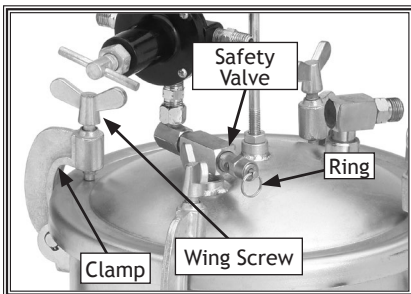

Figure 4. Safety valve ring.
2. Bleed out all tank pressure by pulling the ring on the safety valve (Figure 4) until air stops hissing out
4. Loosen the wing screws on the tank lid (Figure 4), tip the clamps back, and tip the tank lid to one side.